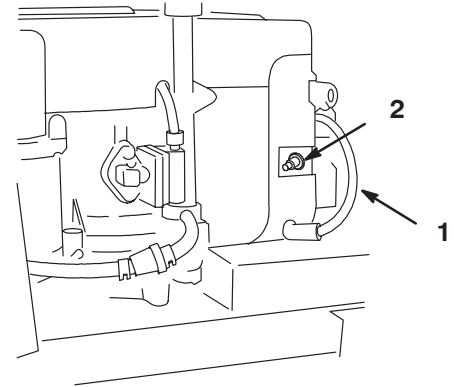

Figure 35
3. Disconnect the wire(s) from the spark plug(s) (Fig. 35).
3. Connect the wire(s) to the spark plug(s) (Fig. 35).